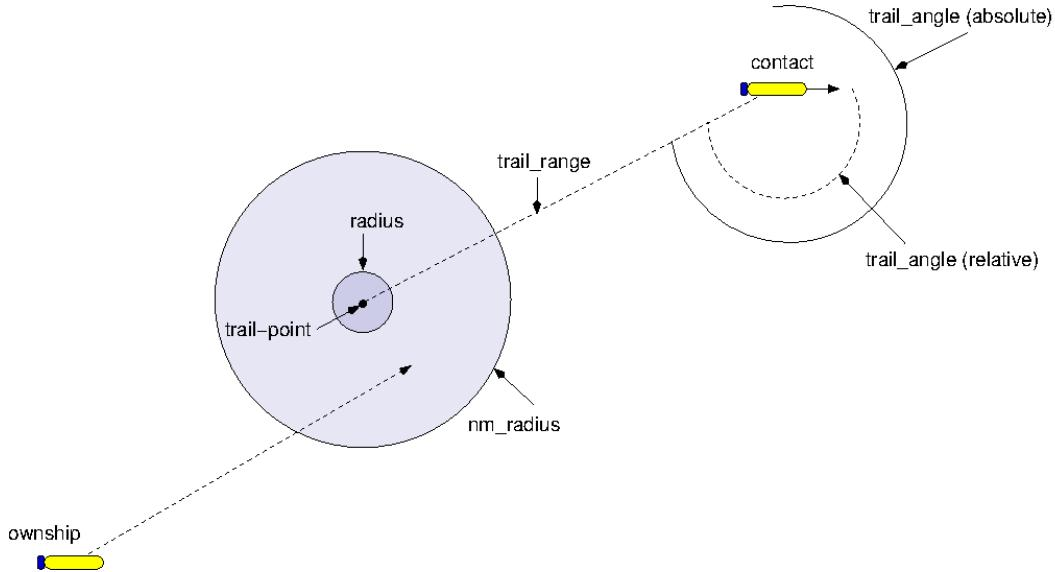

Figure 112: Interpolation of vehicle speed inside the radius set by `nm_radius` relative to the extrapolated trail position.
- `nm_radius`: The distance in meters from the trail point within which the speed will be gradually change from the outer chase speed (max speed) and the speed of the contact, as illustrated in Figure 112. This parameter should typically be set to several times the value of `radius` to achieve smooth formation flying. Default is 20 meters.